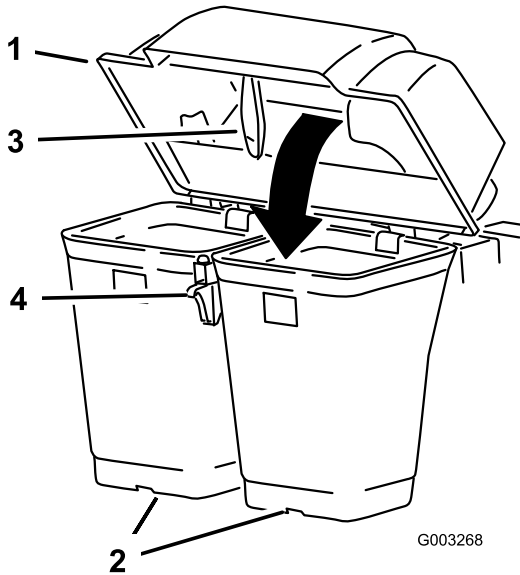
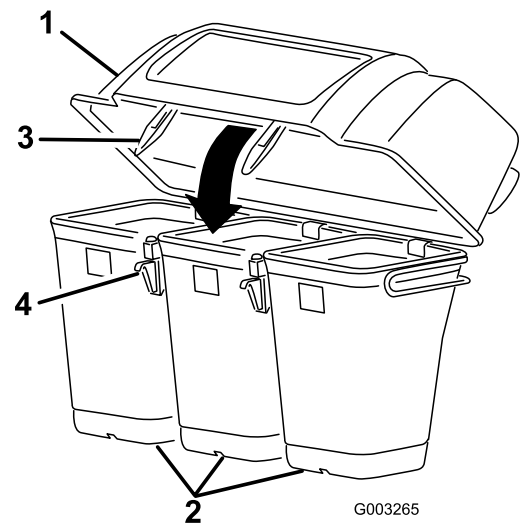

Figure 10
Figure 11
7. Lower the bagger hood over the bags (Figure 10 or Figure 11).